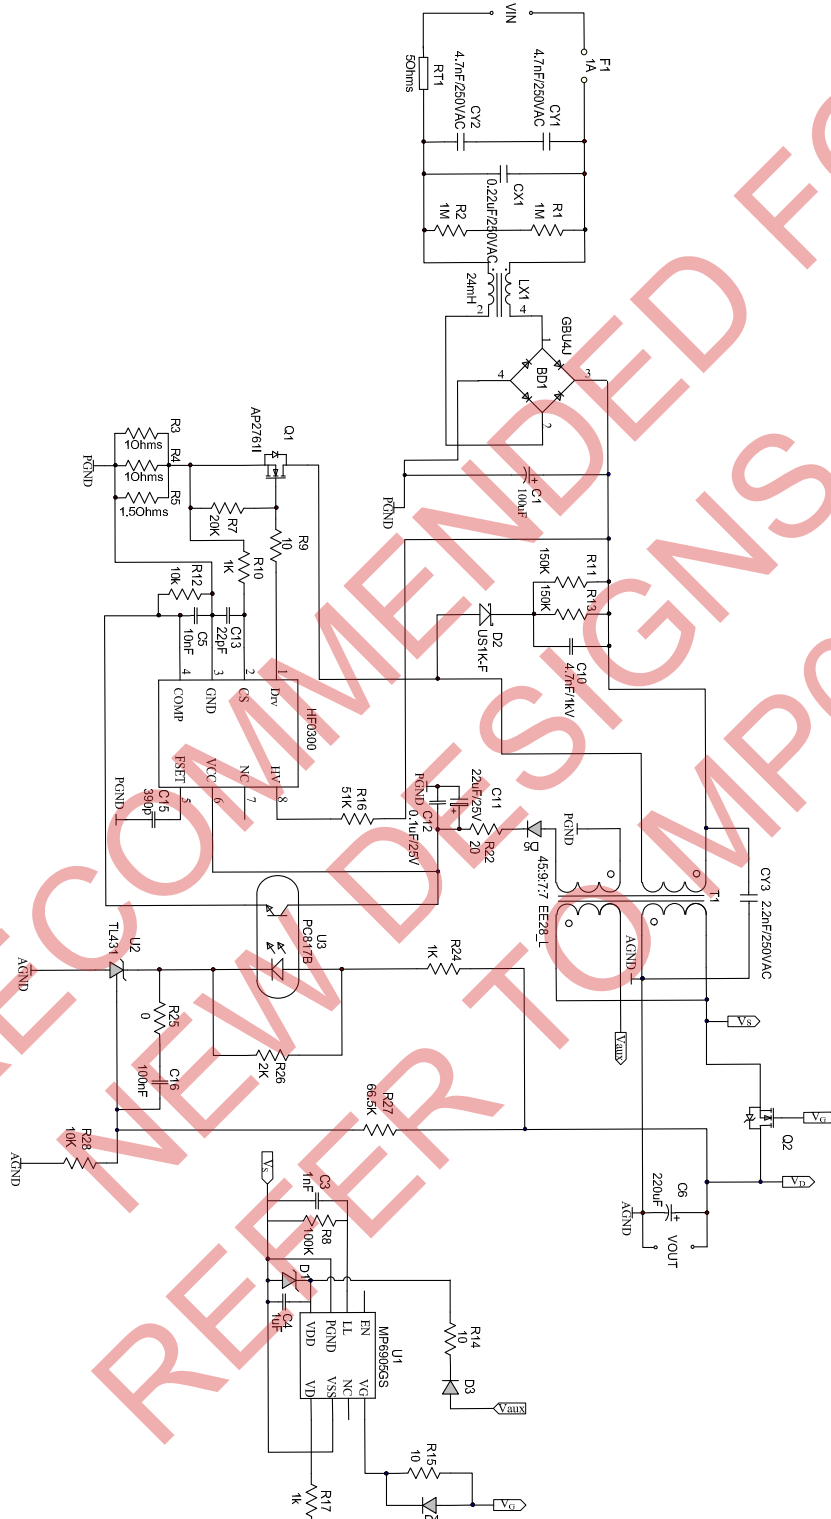

Figure 14:MP6905 for Secondary Synchronous Controller in 90W Flyback Application
6) See Figure 14 for the test circuit